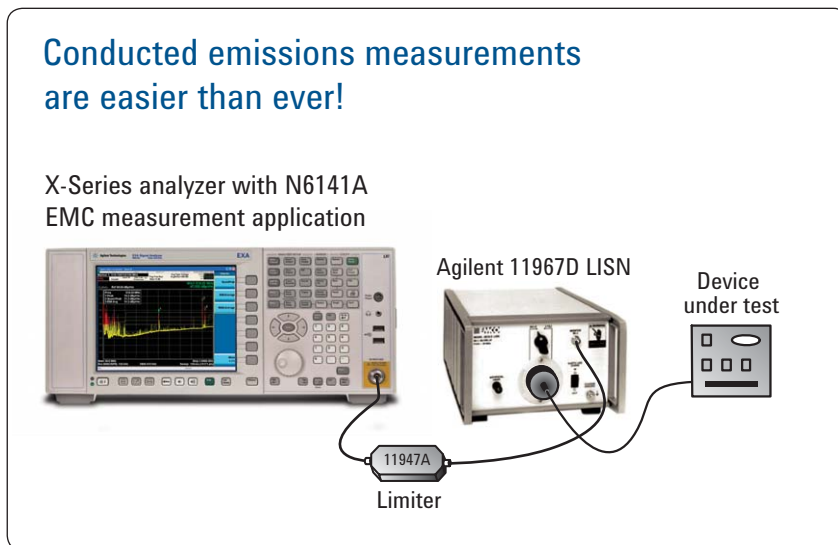

Figure 4. Conducted measurements interconnection
- Interconnect the signal analyzer to the limiter, LISN and EUT as shown in Figure 4. Operation of the LISN and limiter is covered in Appendix A. Ensure that the power cord between the device under test (DUT) and the LISN is as short as possible. The power cord can become an antenna if allowed to be longer than necessary. Measure the signals on the power line with the DUT off. If you see the signal approaching the established limit lines, then some additional shielding may be required. Do not use ferrites on the power cord because common mode signals from the DUT may be suppressed causing a lower value measurement.